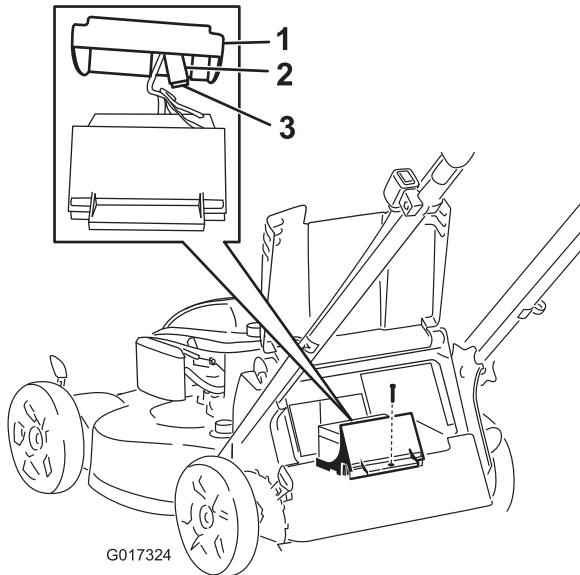

Figure 27
3. Remove the screw that secures the battery compartment, pull out the battery, and locate the fuse (Figure 27).
4. Replace the fuse in the fuse holder (Figure 27).